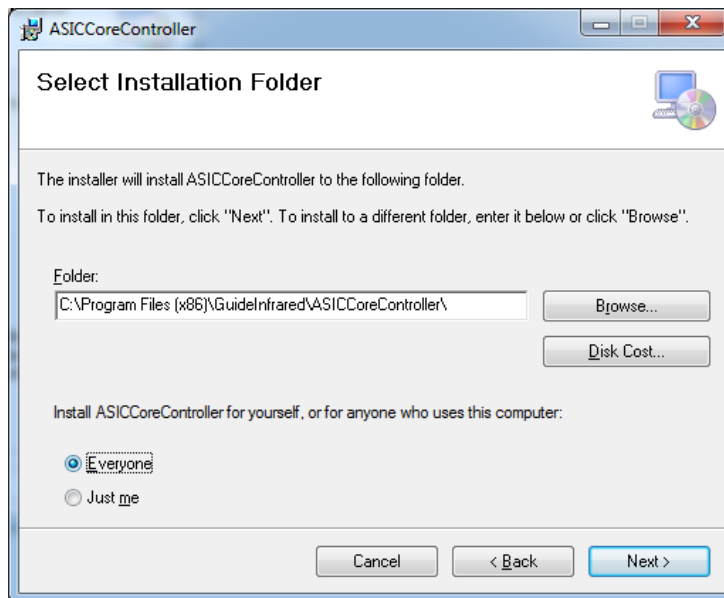

Figure 4-2 Software installation interface 2
2. Click the button "Next" to pop up a window for selection of installation path and the installation object. After selecting the file installation path and object, click the button "Next" to proceed to the next step, as shown in Figure 4-2.